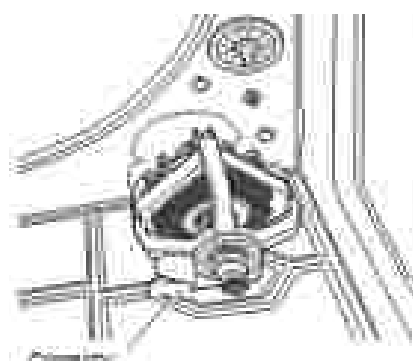

Figure 7 - Remove connector.
9. Check the wiring and continuity from the L2 terminal of the terminal block and the L2 terminal in the wire connector from the 3-hole. See figure 7 or page 22. Also, locate these measurement points by referring to the appropriate wiring diagram (Electric) or page 23.
8. Remove the white connector from the drive motor section. See figure 7.